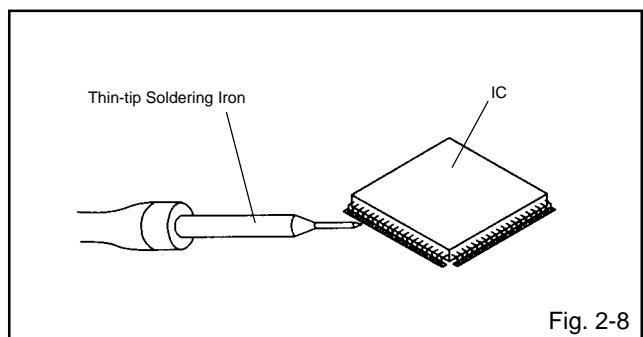

Fig. 2-8
- When bridge-soldering between terminals and/or the soldering amount are not enough, resolder using a Thin-tip Soldering Iron. (Refer to Fig. 2-8.)